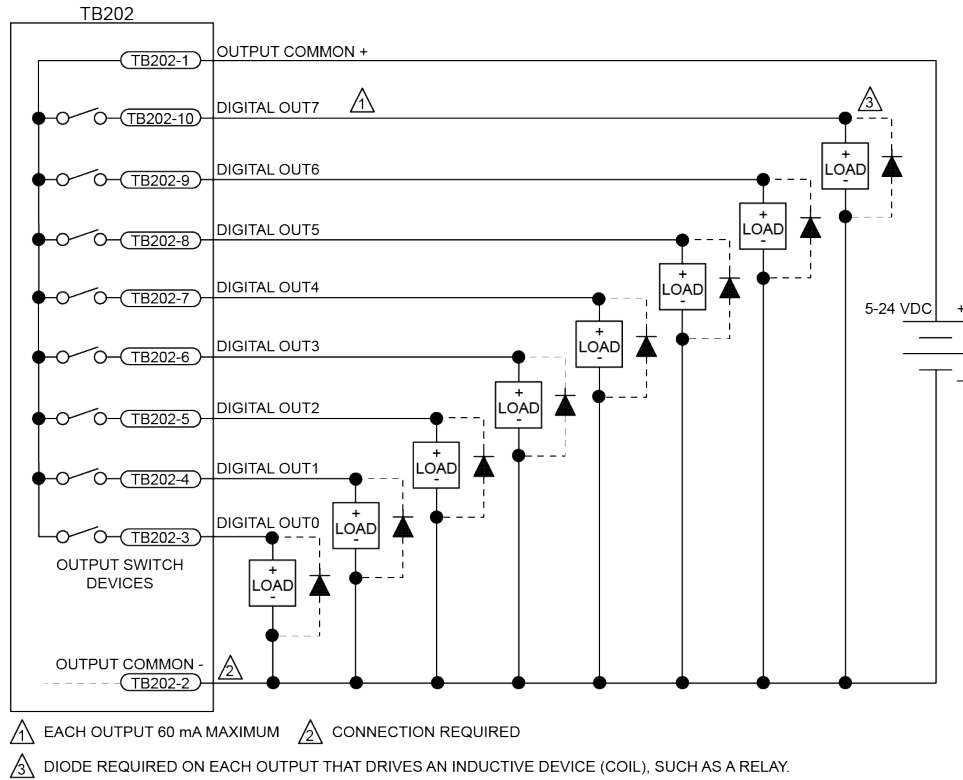
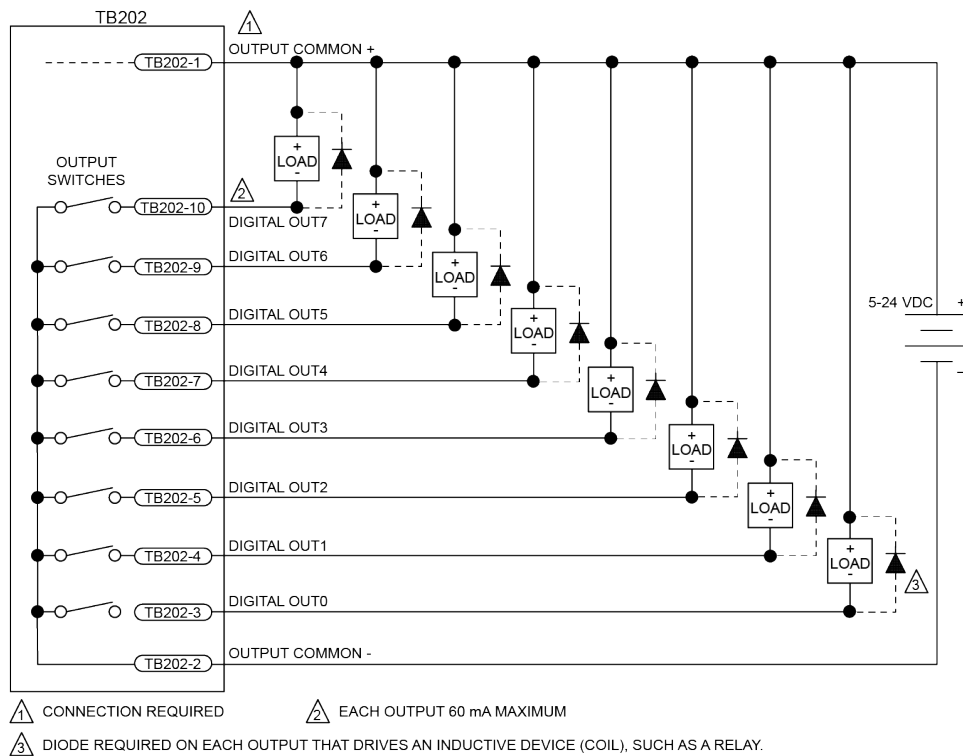

Figure 3-5: Outputs Connected in Current Sourcing Mode (TB202/TB203)
Figure 3-6: Outputs Connected in Current Sinking Mode (TB202/TB203)
The outputs are software-configurable and must be connected in either all sinking or all sourcing mode. Figure 3-5 and Figure 3-6 illustrate how to connect to an output in current sourcing and current sinking modes.
Suppression diodes must be installed on outputs driving relays or other inductive devices. This protects the outputs from damage caused by inductive spikes. Suppressor diodes, such as the 1N914, can be installed on all outputs to provide protection. It is important that the diode be installed correctly (normally reversed biased). Refer to Figure 3-6 for an example of a current sinking output with diode suppression and Figure 3-5 for an example of a current sourcing output with diode suppression.
NOTE: Power supply connections must always be made to both the Output Common Plus (OP) and Output Common Minus (OM) pins as shown in Figure 3-5 and Figure 3-6.